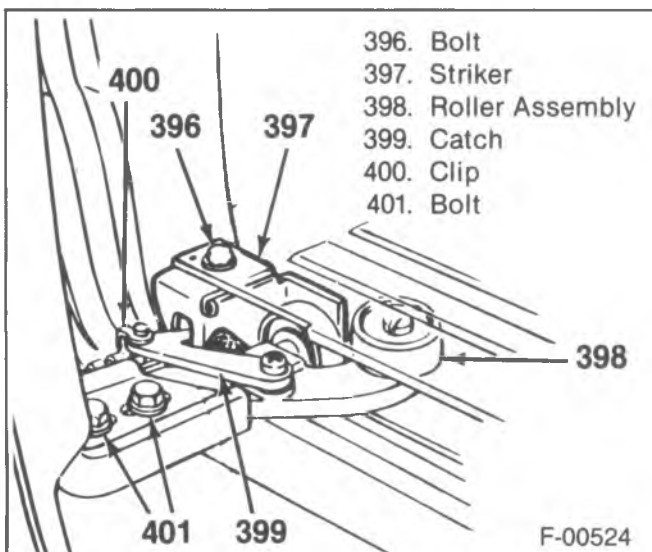

Figure 89—Lower Front Roller Assembly
Remove or Disconnect (Figure 89)
Install or Connect (Figure 89)
- The front edge of the door by loosening the upper front roller bracket to door bolts (figure 87) and the lower hinge to door bolts (figure 89). Align the door to obtain the same gap as in step 1, then tighten the lower hinge to door bolts (figure 89).
- Remove the front lock striker (404).
- Loosen the nut (418) retaining the upper front roller (415) to the upper roller bracket (381).
- Loosen the lower front roller assembly to roller assembly bracket bolts (figure 89).
- Tighten the lower front roller assembly to roller assembly bracket bolts (figure 89).
- Tighten the nut (418) retaining the upper front roller (415) to the upper roller bracket (381).
DOOR HOLD OPEN CATCH ADJUSTMENT (Figure 89)